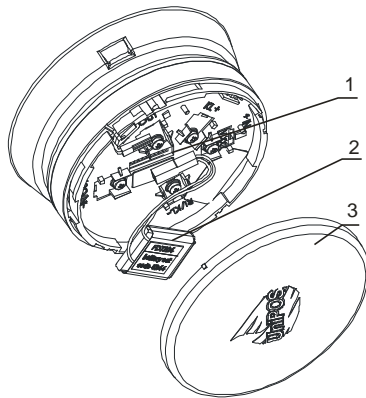

Fig.1
The beacon sounder is consisted of a body, micro-switches for FD7204's parameters set-up (pos.1, fig.1), external battery set (pos.2, fig.1) and a plastic cover (pos.3, fig.1).